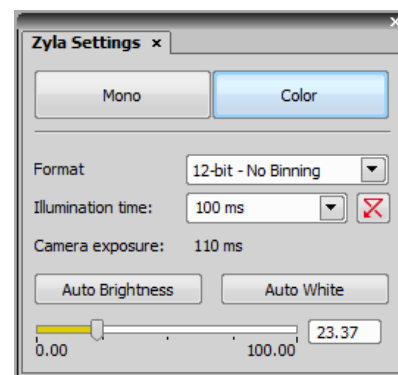

Figure 8. NIS Elements camera settings.
8. Go to View > Acquisition Controls > Zyla Settings [4] to display the camera control settings (Figure 8).